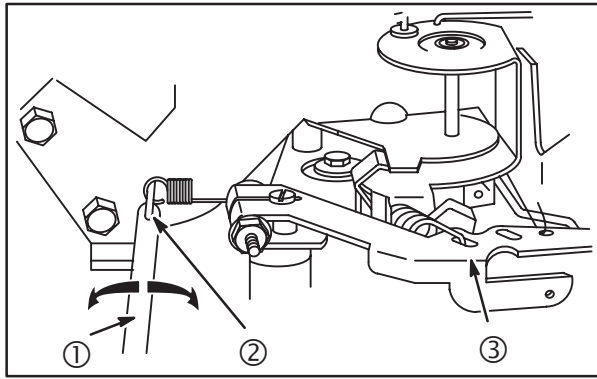

Fig. 32
Governor spring is installed in #1 hole (3) in governor lever, **Fig. 32.**